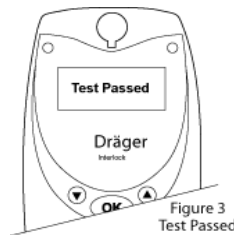

Figure 3
**Test Passed:** If the breath sample is below the set-point the message "Test Passed" will appear (Figure 3) and the green light on the left side of the device will light up. Turn the key to start your vehicle.